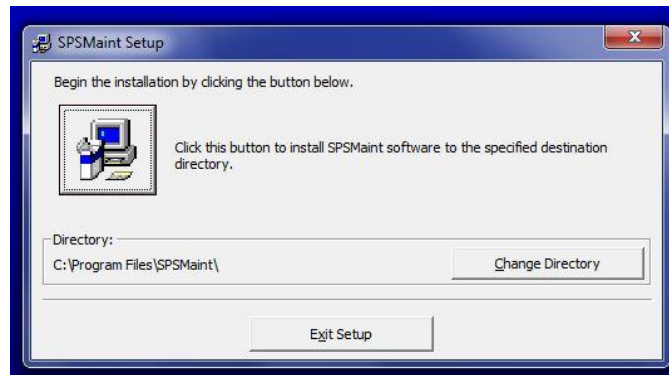

Figure C-8: Sippican Install
15. The *Begin the installation* screen will appear (Figure C-8). Click on the **computer icon** button. Select **Program Group**. Do not change the default settings